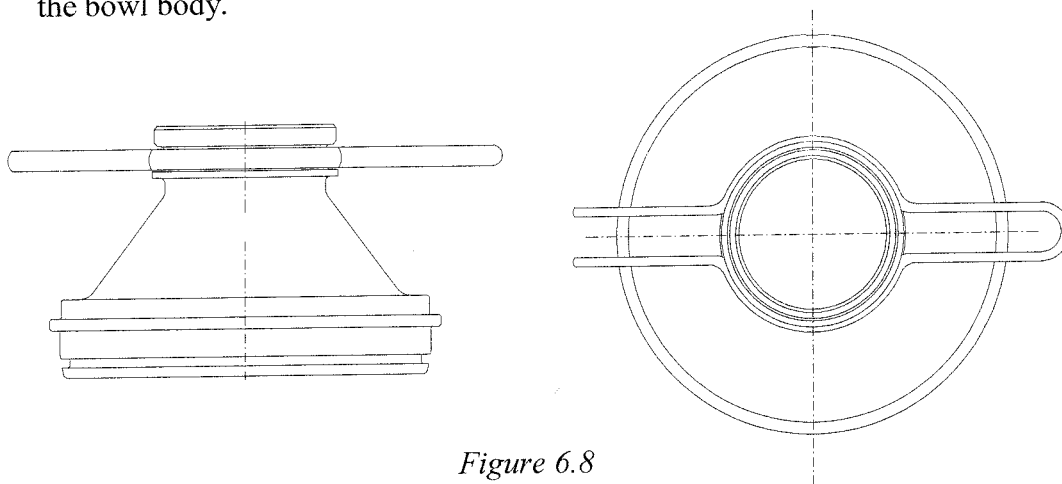

Figure 6.8
9) By the spanner (09.010.0), place down the **bowl hood** (fig 6.8). Proceed as follows:
- 5) By the spanner (09.010.0), extract the **bowl hood** (fig. 6.8). Proceed as follows: